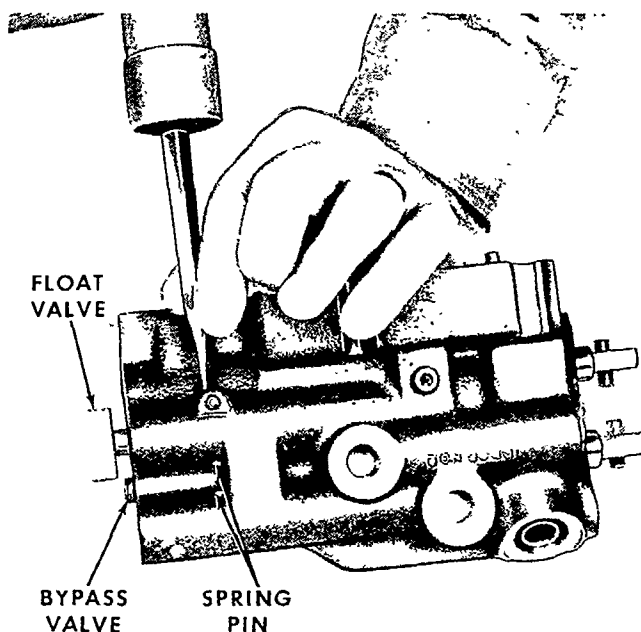

Figure 17
1. Remove the float valve by driving the retaining spring pin out of the valve body. See Figure 17.